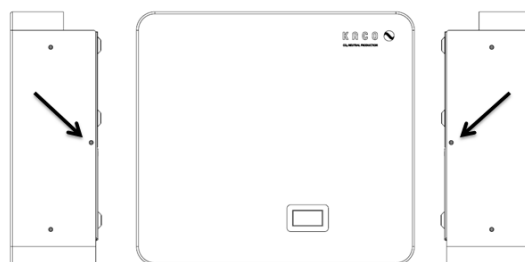

Fig. 6: Position of the locking screws
6. Remove the wall bracket from the back of the device by loosening and removing the locking screws according to Fig. 6 [~~X~~TX20/m 1.5Nm].